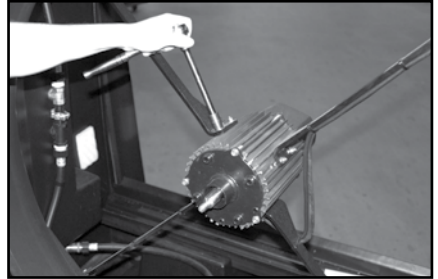

Figure 4
- 6) Locate the 8 bolts (2 on each arm) holding the motor in place. (NOTE: the position of the motor on the mounting arms. Make sure to mount it in the correct railings of the motor housing and at the correct distance from front or back on all four arms to ensure stability and alignment) (See Figure 4 NEXT PAGE)